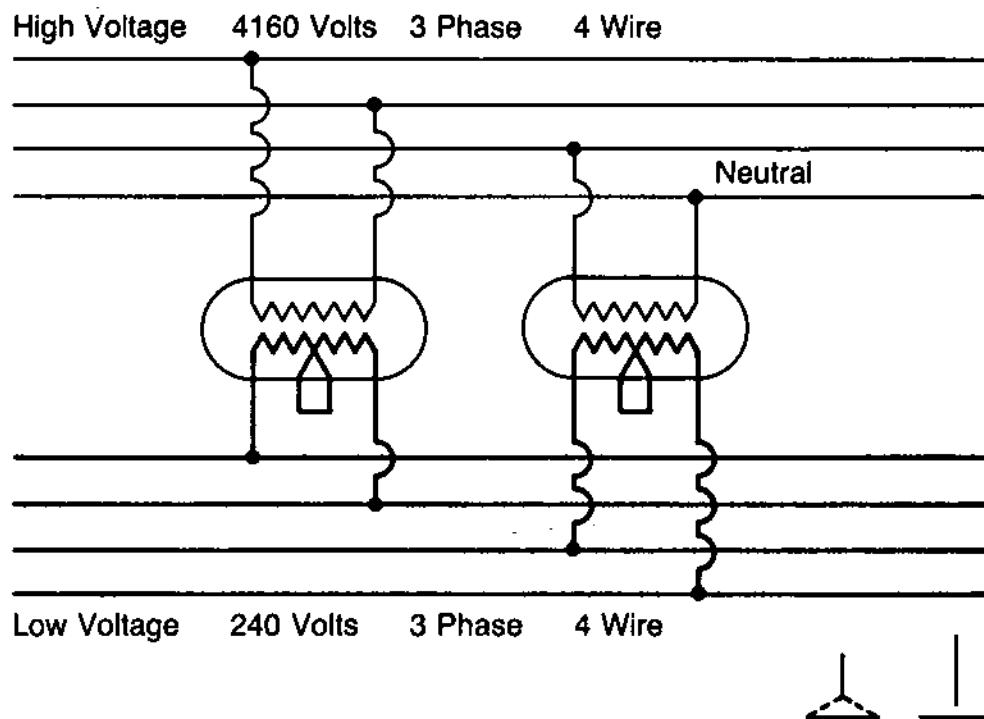

Fig. 48 – Phase Transformation Using Standard Transformers of Different Voltage Ratings
m. Phase Transformation Using Standard Transformers of Different Voltage Rating. Refer to Figure 48. In this connection, if transformer 1 is rated at 4160 volts to 240/120, and transformer 2 is rated 2400 volts to 240/120, each transformer will have a rating equal to one-half the two-phase load.